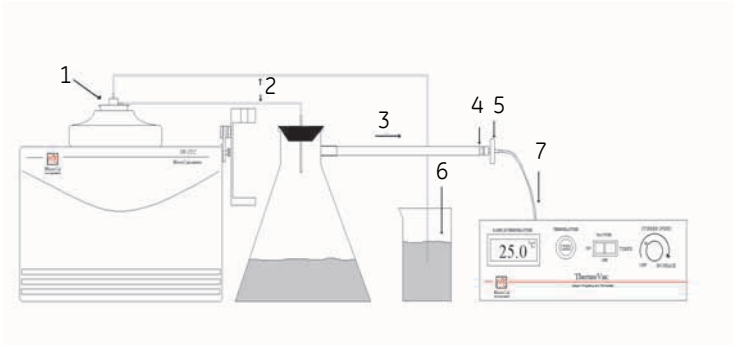

Figure 4-8. VP-ITC cell cleaning.
- 5 Attach the side arm of the vacuum flask to the vacuum port on the ThermoVac. See Figure 4-8 below.
Table 4-2. Parts in Figure 4-8.